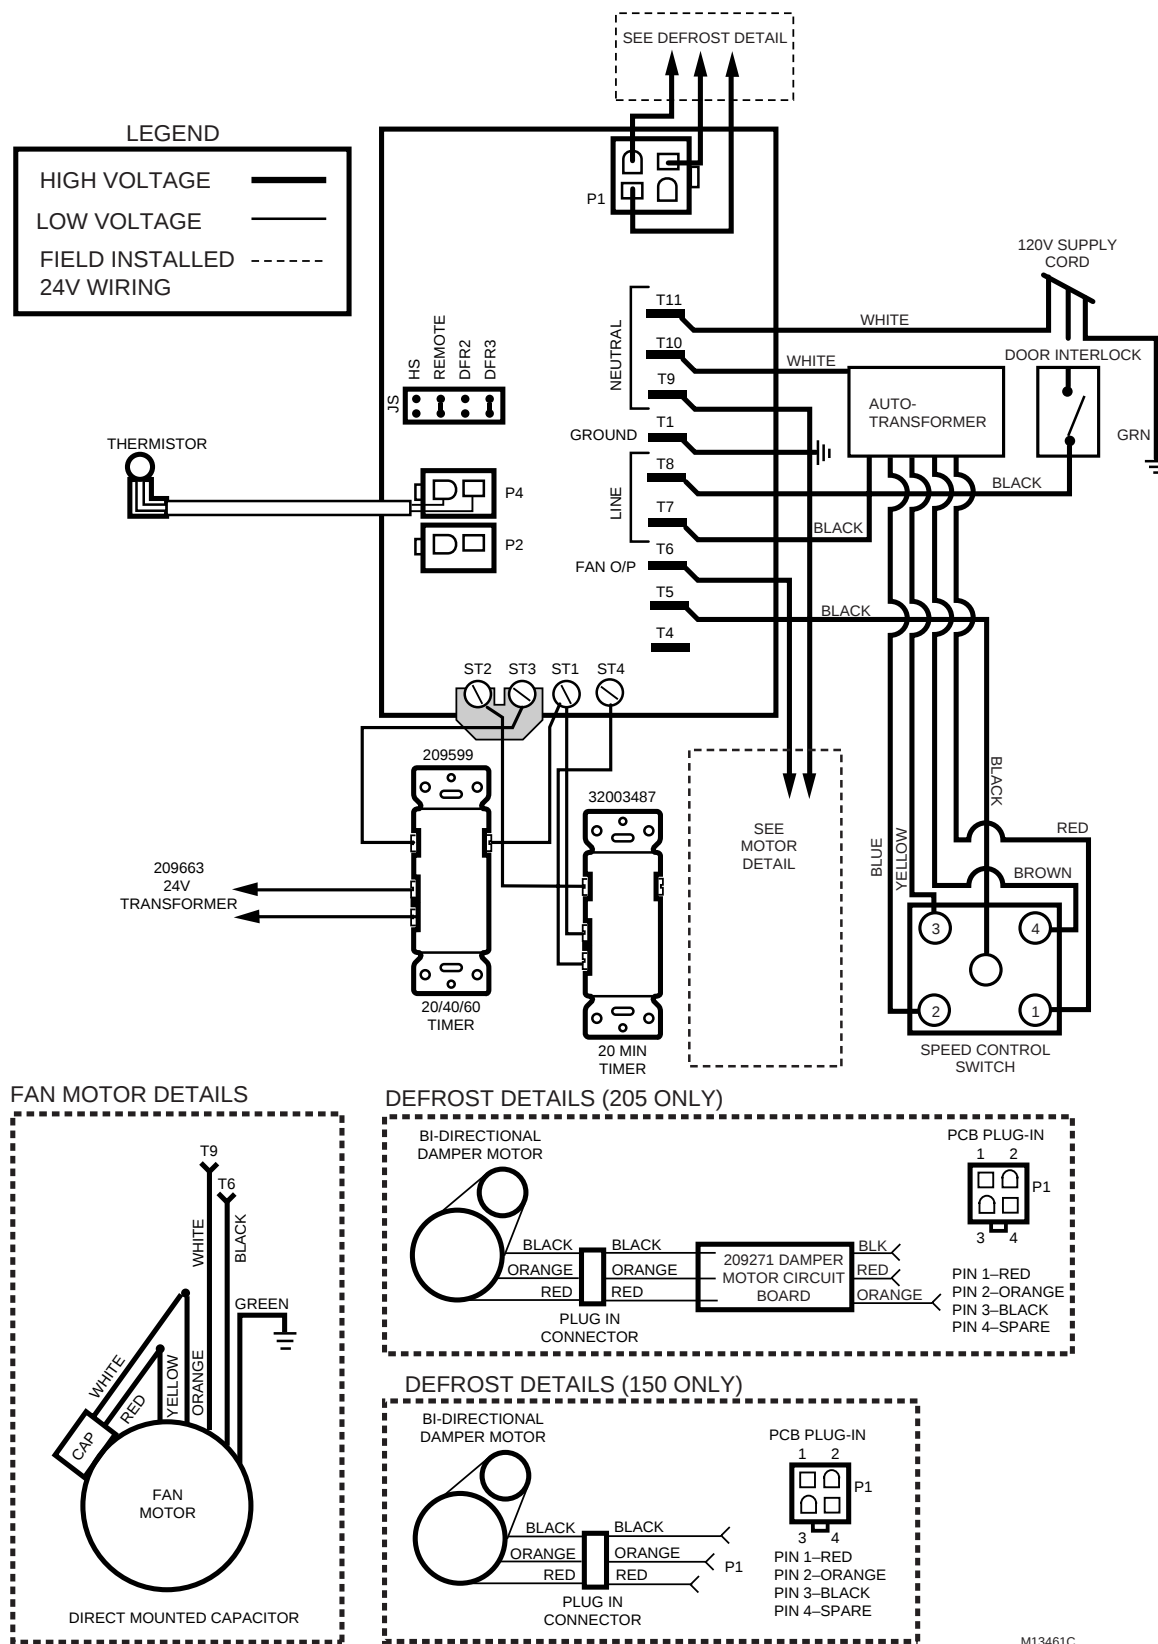

Fig. 10. Internal schematic for fresh air ventilation systems with manual control and circuit board.
3. Connect the drain line to the center leg and tape it in place to prevent any kinks. See Fig. 10.